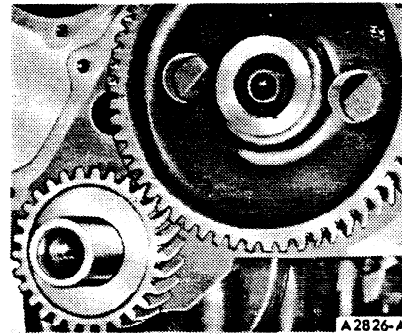
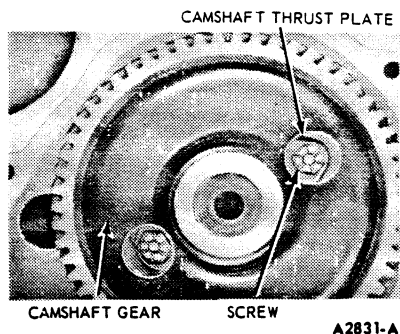
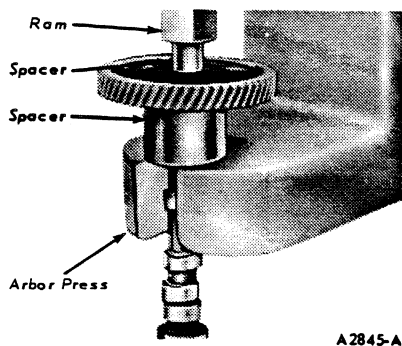
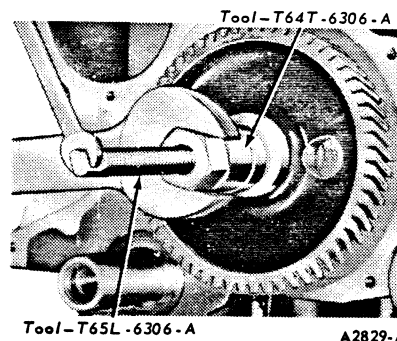

FIG. 42 Aligning Timing Marks
FIG. 43 Removing or Installing Camshaft
FIG. 44 Removing Fiber Camshaft Gear
FIG. 45 Installing Camshaft Gear
15. Turn the crankshaft to align the timing marks as shown in Figure 42.
16. Remove the camshaft thrust plate screws (Figure 43). Remove the camshaft. Avoid damaging the camshaft lobes during removal. Press the camshaft out of the gear in an arbor press (Figure 44). Remove the key, thrust plate and spacer.
4. Position the camshaft gear on the camshaft. Align the timing marks on the timing gears as shown in Figure 42. Install the camshaft gear with the tool shown in Figure 45. Be sure the gear and spacer are tight against the shoulder on the camshaft.
4. Crank the engine until the timing marks are aligned as shown in Figure 42.
1. Be sure the key and spacer are properly installed. Align the gear keyway with the key and install the gear on the camshaft as shown in Figure 45. Be sure that the timing marks line up on the camshaft and crankshaft gears.
5. Remove the camshaft, following the procedures under Camshaft Removal. Press the camshaft gear off the camshaft in an arbor press (Figure 44). Remove the thrust plate, spacer and key.
1. Install the camshaft in the engine and install the spacer and thrust plate on the camshaft. Insert the key in the keyway. Position the camshaft gear on the camshaft with the timing marks aligned (Figure 42) and install it as shown in Figure 44. **Be sure the gear and spacer are tight against the shoulder on the camshaft and that the thrust plate can be moved freely.** Install the thrust plate screws and tighten to specifications.